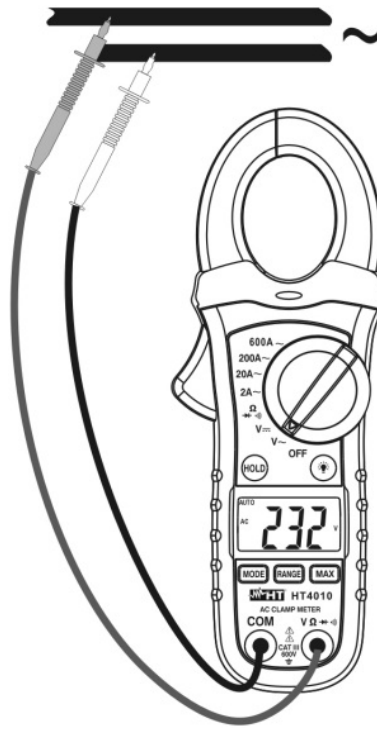

Fig. 3: Taking AC voltage measurement
4. Insert the red test lead plug into **V~** jack and the black test lead plug into **COM** jack (see Fig. 3)
5. Connect the two long ends of test leads to the desired circuit (see Fig. 3) then reading will be displayed